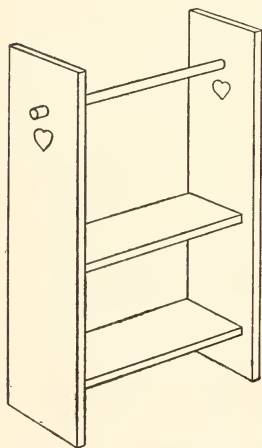

FIG. 278. — A Wash-Stand.
**A Wash-Stand** can be made for the bathroom and each of the bedrooms similar to Fig. 278. The sides for this should be five inches high by an inch and one-quarter wide, and the shelves one by three inches. Fasten the lower shelf three-quarters of an inch above the base, and the top shelf at a height of two and one-half inches. When the stand